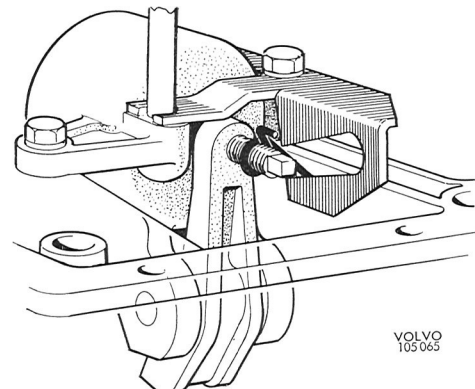

Fig. 4-127. Self-adjustment
26. Adjust the position of the spring on the adjusting screw. It should be 1—2 threads from the lever. Remove the torque wrench and spacer block and then install the cam. Insert the longer end of the spring in the cam, see Fig. 4-127.